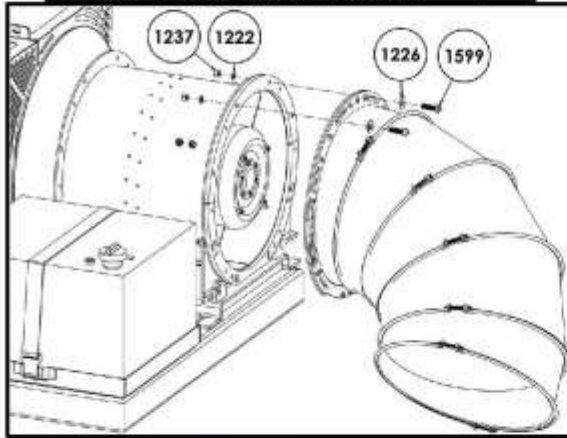

Figure 3 Nozzle Mounted on Blower
1. Snug-tighten the nozzle assembly to the blower through the flanges with the three bolt holes positioned at the bottom, as in [Figure 3].